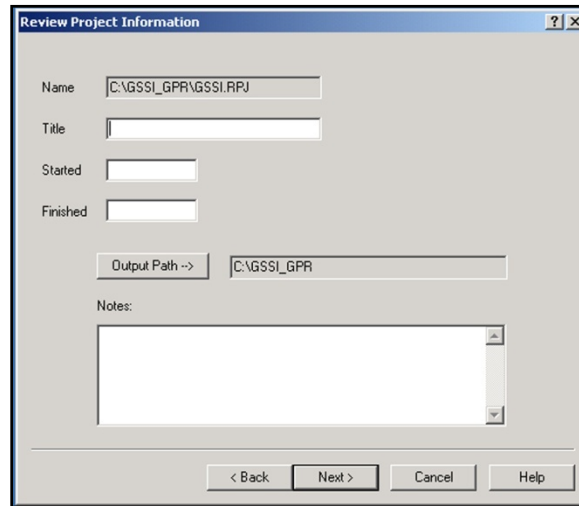

Figure 33: Project Information dialog box.
- 2** Click Next >. This will open a new window with the heading Review Project Information (Figure 33).